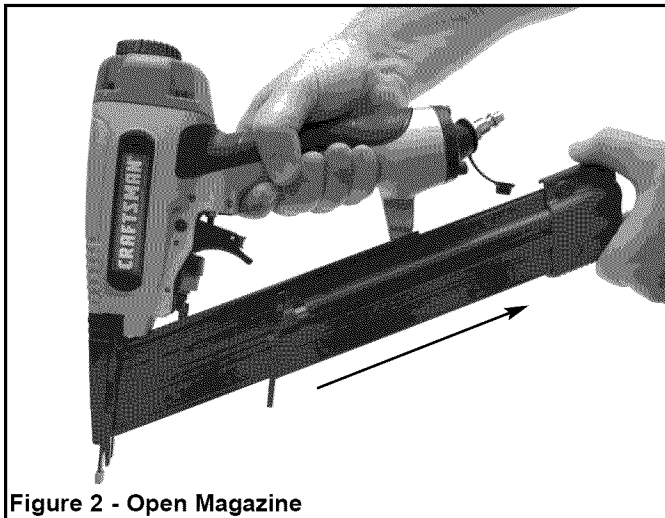

Figure 2 - Open Magazine
Refer to Figures 2, 3 & 4 (page 4).
- Depress latch with thumb and slide magazine cover open (see Figure 2).